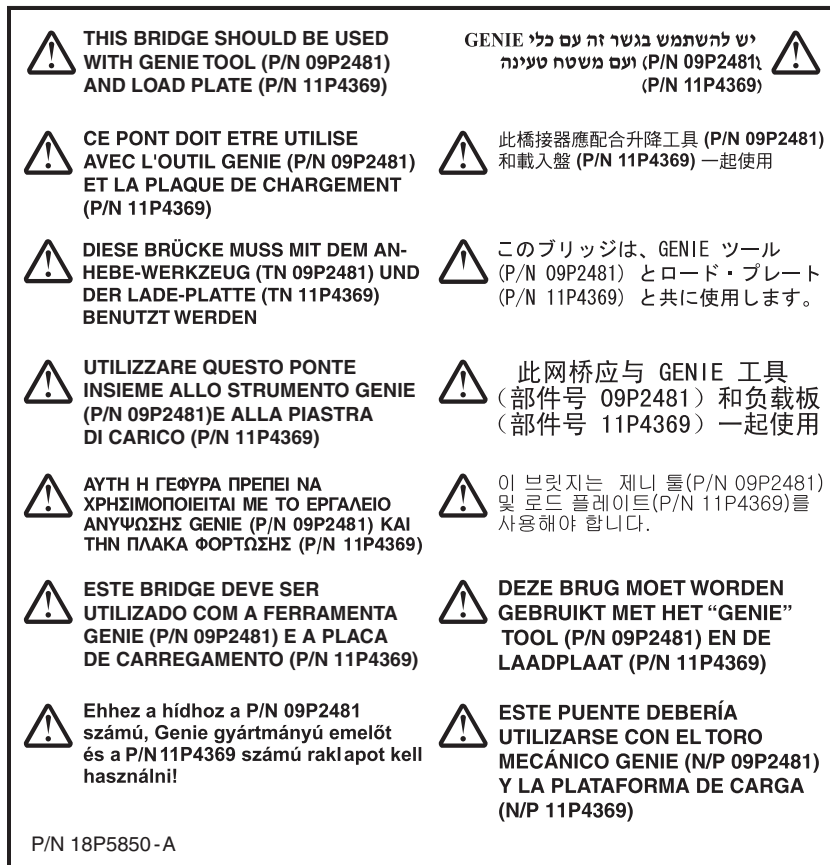

Figure 10. Genie tool and load plate label
3. Verify that the genie tool and load plate label shown in Figure 10 is installed on the load plate.